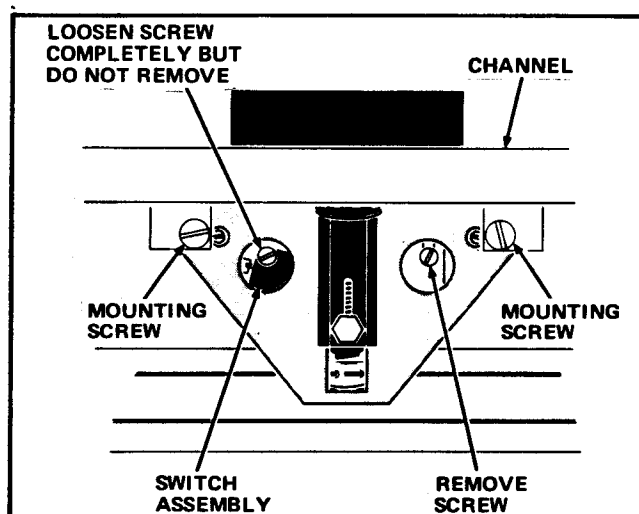

FIGURE 3
- a. Removing the Screw which attaches the Switch Assembly Bracket to the Channel. See Figure 3.
- b. Unscrewing the Screw that goes through the Switch Assembly at the terminal end of the Switches in the Assembly, and detaching the Assembly from the Channel. Do not remove this Screw from the Switch Assembly. See Figure 3.
4. Remove the 2 Mounting Screws and Lockwashers, which attach the Push Button Assembly being removed. See Figure 3.